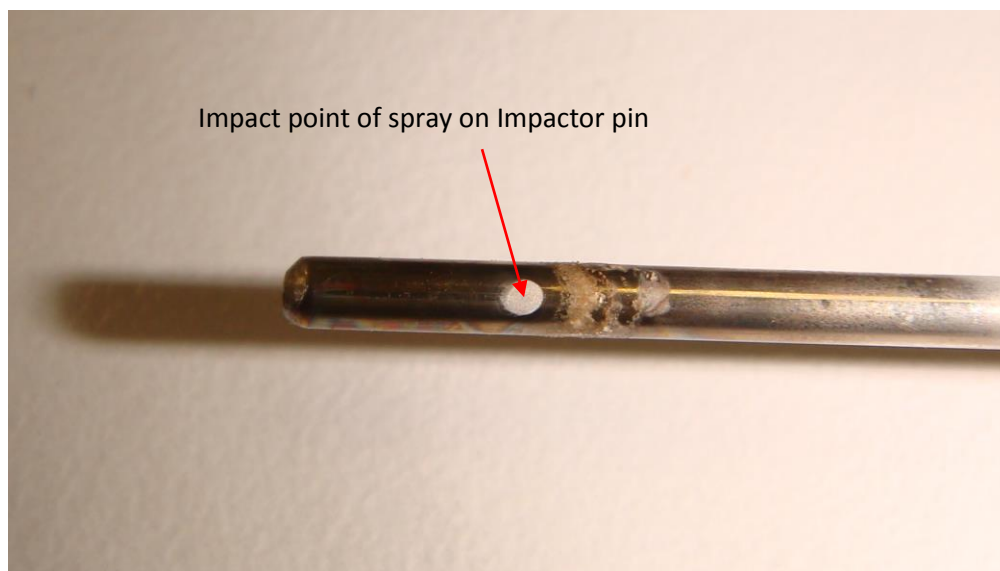

Figure5. Impactor pin after running dirty samples
2. Figure 5 shows the typical build up of contamination when analysing dirty samples. The white spot observed is where the spray impacts on the Impactor pin. After removal of gross contamination the burn on the Impactor pin should be removed using the yellow lapping paper supplied followed by ultrasonic cleaning.